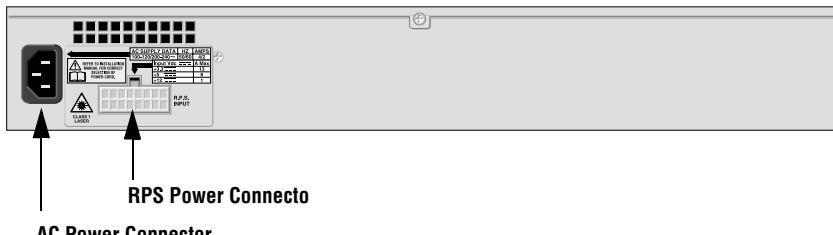

Figure 3 Switch Rear Panel
4. If you purchased a redundant power supply (RPS) unit for the switch, connect the RPS unit to the R.P.S. Input connector (Figure 3) on the rear of the switch by following the directions included with the RPS system.
5. Apply AC power to the switch by plugging the power cord into the AC power connector on the back panel of the unit (shown in Figure 3) and plugging the other end into a wall outlet.
7. If you purchased a redundant power supply (RPS) unit for the switch, connect the RPS unit to the R.P.S. Input connector (Figure 3) on the rear of the switch by following the directions included with the RPS system.
8. Apply AC power to the switch by plugging the power cord into the AC power connector on the back panel of the unit (shown in Figure 3) and plugging the other end into a power outlet.